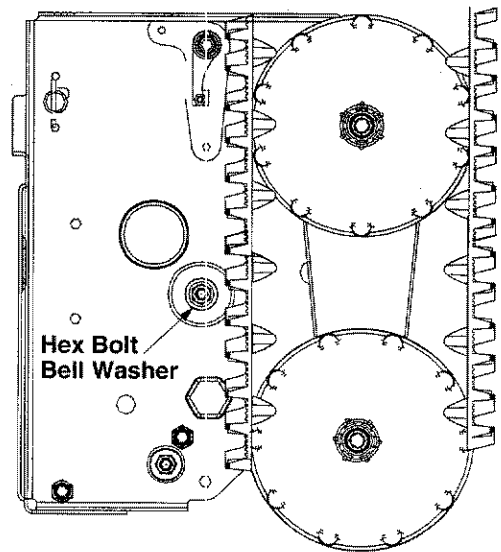

Figure 22
- Using a wrench to hold the shaft, loosen, but do not completely remove, the hex bolt and bell washer on the left end of shaft. See Figure 22.